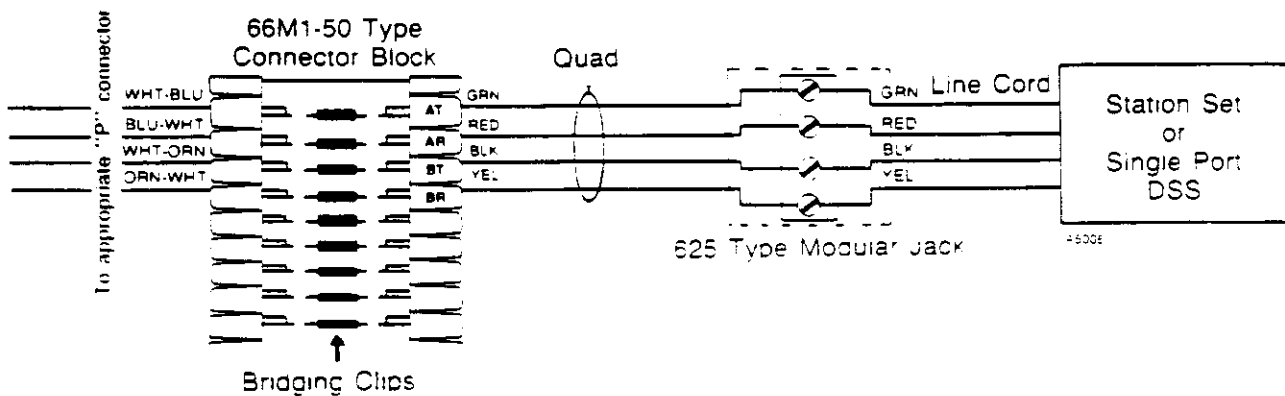

Figure 5-4 TYPICAL STATION AND SINGLE PORT (64 BUTTON) DSS CONSOLE CABLING. EK-824/1232/1648
3.13 Use standard station cable (or equivalent) to connect the connecting blocks to the modular jacks. All station cable, including cable for the DSS console, must be home run to the connecting blocks and must not exceed 2000 feet for keysets, 10,000 feet for (2500) type single line and one button sets and 800 feet for display telephones. Punch down the cable at the station blocks (Tables 5-2 and 5-3). Figure 5-4 shows typical station and single port (64 button) DSS console cabling.